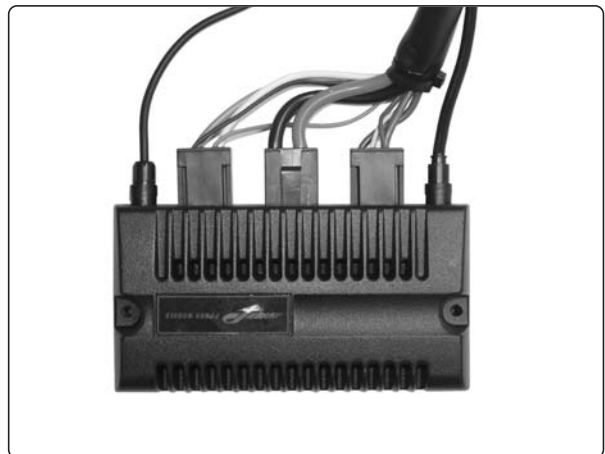

Fig. 44. Electrical connectors for the Pilot Motor Controller.
6. Disconnect the electrical connectors from the output stage; note their locations for refitting, see fig. 44.